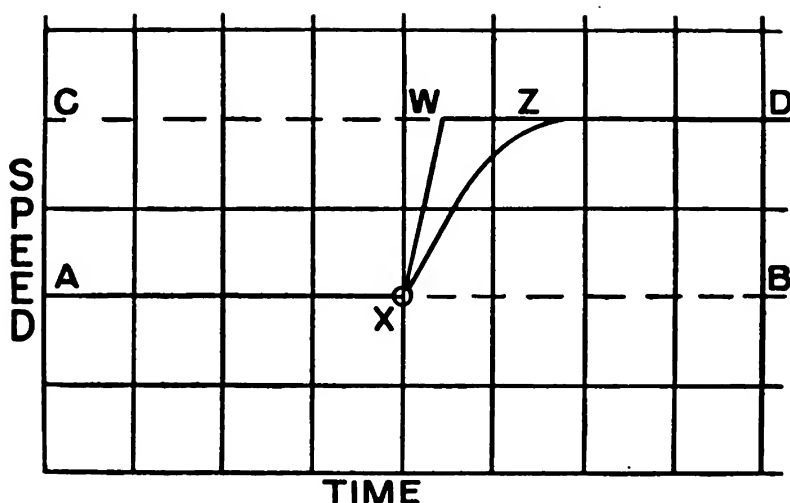

Figure 43.—Time, speed graph.
*AB* in figure 43. If the gunner wishes to reach full normal speed rapidly, he quickly deflects the potentiometer pointer, and because of the quick response characteristic of the amplidyne, he immediately is rotating at full normal speed along line *CD*.
Curve *XW* in figure 43 indicates that there will be practically no time interval for the change of speed. This sounds good, but it isn't. Because acceleration will be **JERKY**. This will definitely cause hunting under certain conditions.
In figure 43, the anti-hunt field (AHF), a condenser, and a resistor have been hooked in series across the output of the amplidyne. The AHF is wound on the bottom pole piece of the amplidyne, together with half of the series field. Its action is to oppose any change of the control-field flux.